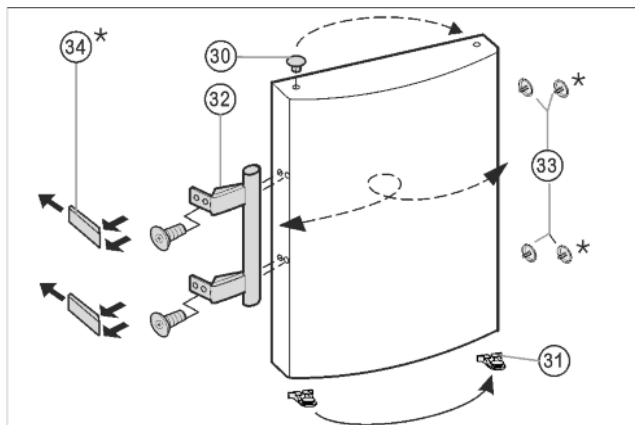

Fig. 8
- ▶ Lift the stopper Fig. 8 (33) out of the door bearing bush and transfer it.
- ▶ Dismantle the door handle Fig. 8 (32), stoppers Fig. 8 (33) and pressure plates\* Fig. 8 (34) and transfer to the opposite side.